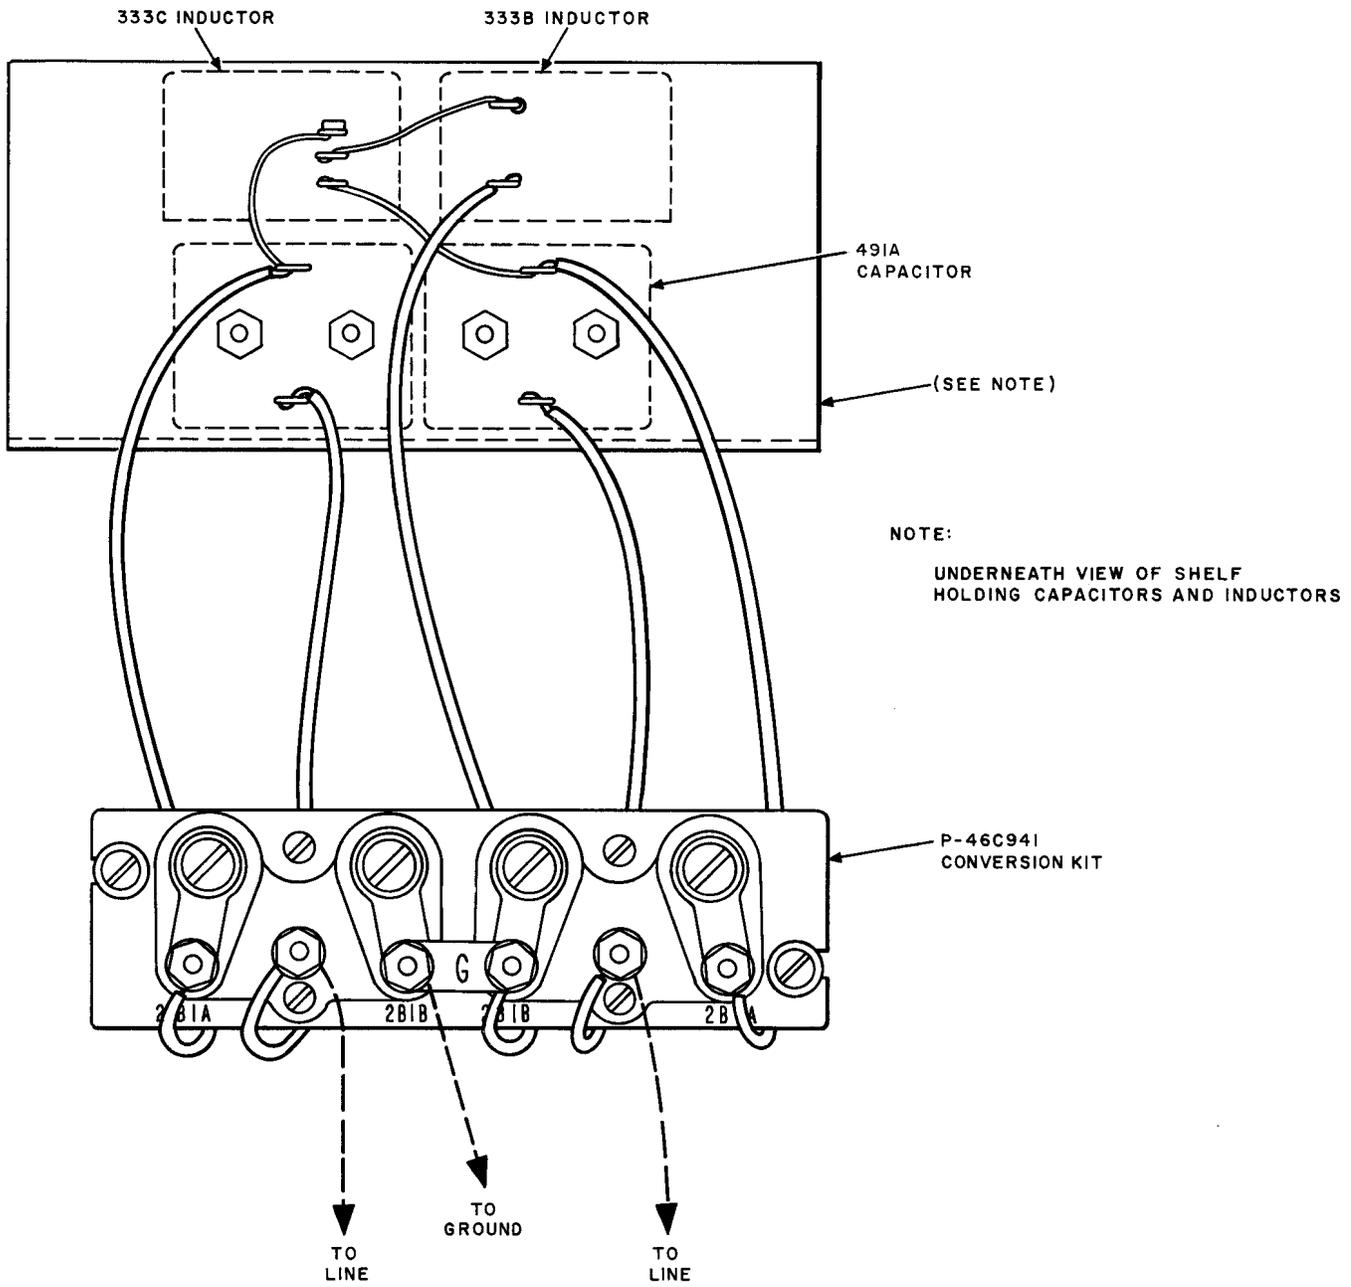

Fig. 6—Installation of P-46C941 Conversion Kit
4.04 The 108B Protector can be converted to a 108C Protector by replacing the carbon block protector strip with a P-46C941 Conversion Kit. (Fig. 6). This kit should be ordered separately and contains one P-16E980 Protector Mounting Assembly, including the protector units with five leads attached to the proper terminals and two screws and washers for mounting. The replacement is made as follows:
(e) Run the leads attached to the protector mounting to the capacitors and inductors as shown in Fig. 6. The attachments to the inductor and to the capacitor lugs should be soldered.